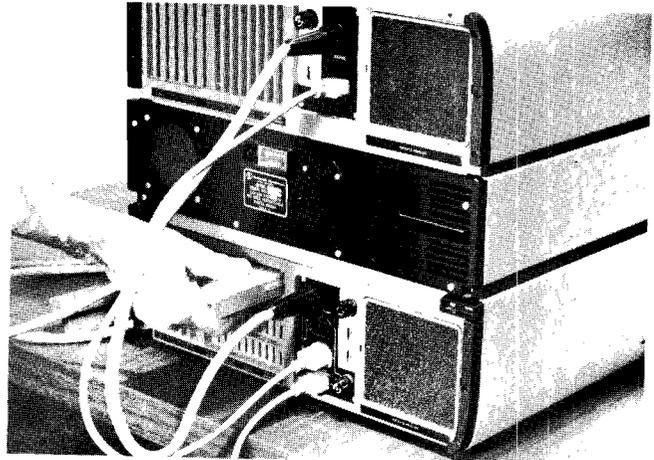

Figure 4. Installing Interface Connector Box
STEP 3. The interface cable (Item 2, Table 1), in the absence of specific arrangements to the contrary, is shipped from the factory as SELECT CODE 5. If SELECT CODE 5 is acceptable, or a special SELECT CODE has been preselected at the time your order was placed, you may proceed to install the interface cable connector box into an available I/O slot at the back of the 9830 as in Figure 4.